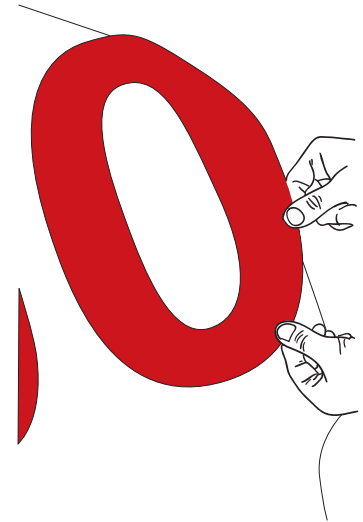

Figure 08
- › Heat the vinyl to a temperature ranging from 40 °C to 50 °C (104 °F to 122 °F), then stretch the film so as to wrap the convex surface. (FIG. 08)